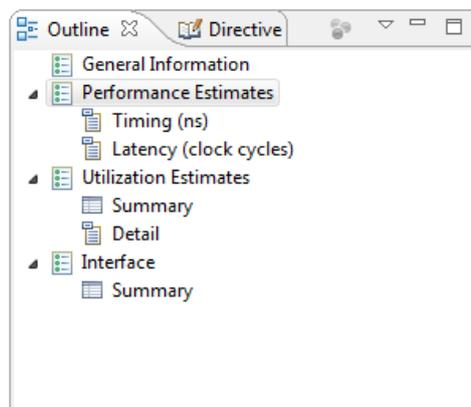

Figure 2.22: Outline tab with selected Performance Estimates option
Step 2. In the **Outline** tab click **Performance Estimates** option, see Figure 2.22.
Step 3. In the **Outline** tab click **Utilization Estimates** option, see Figure 2.22.
Step 4. In the **Outline** tab click **Interface** option, see Figure 2.22.